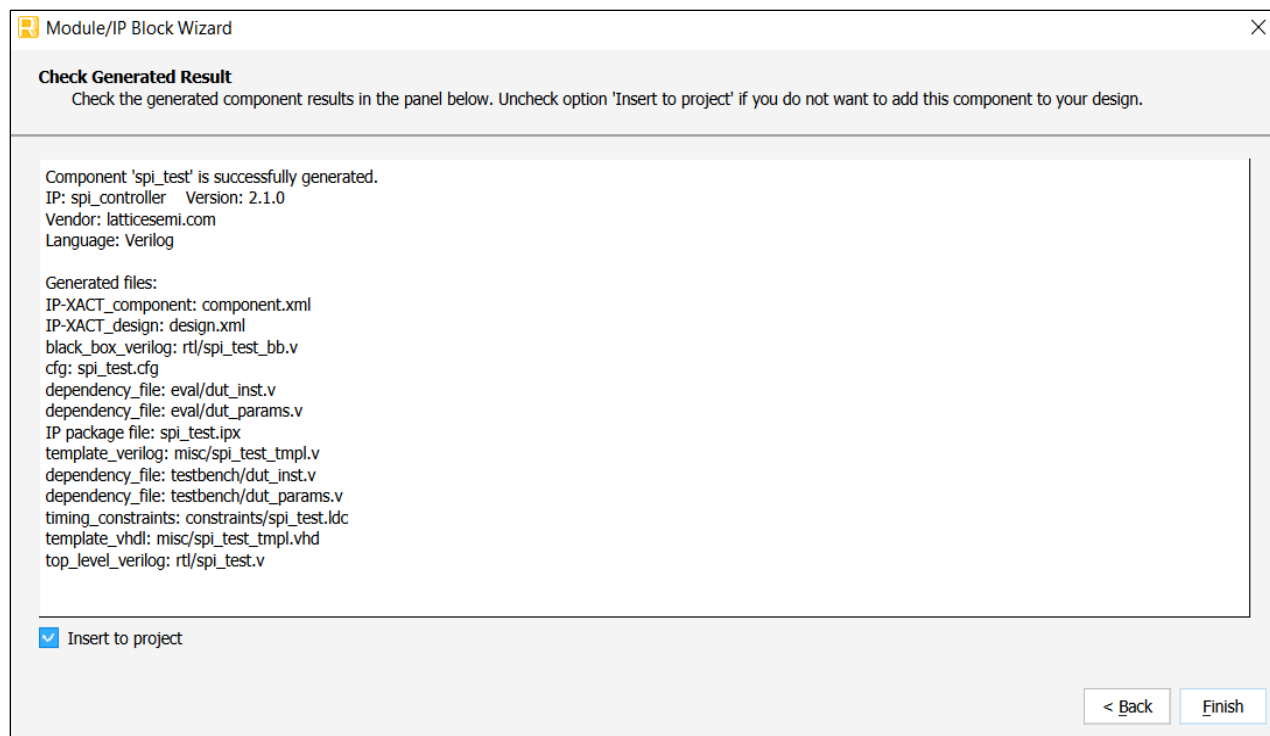

Figure 7.3. Check Generated Result
- Click **Generate**. The **Check Generated Result** dialog box opens, showing design block messages and results (Figure 7.3).